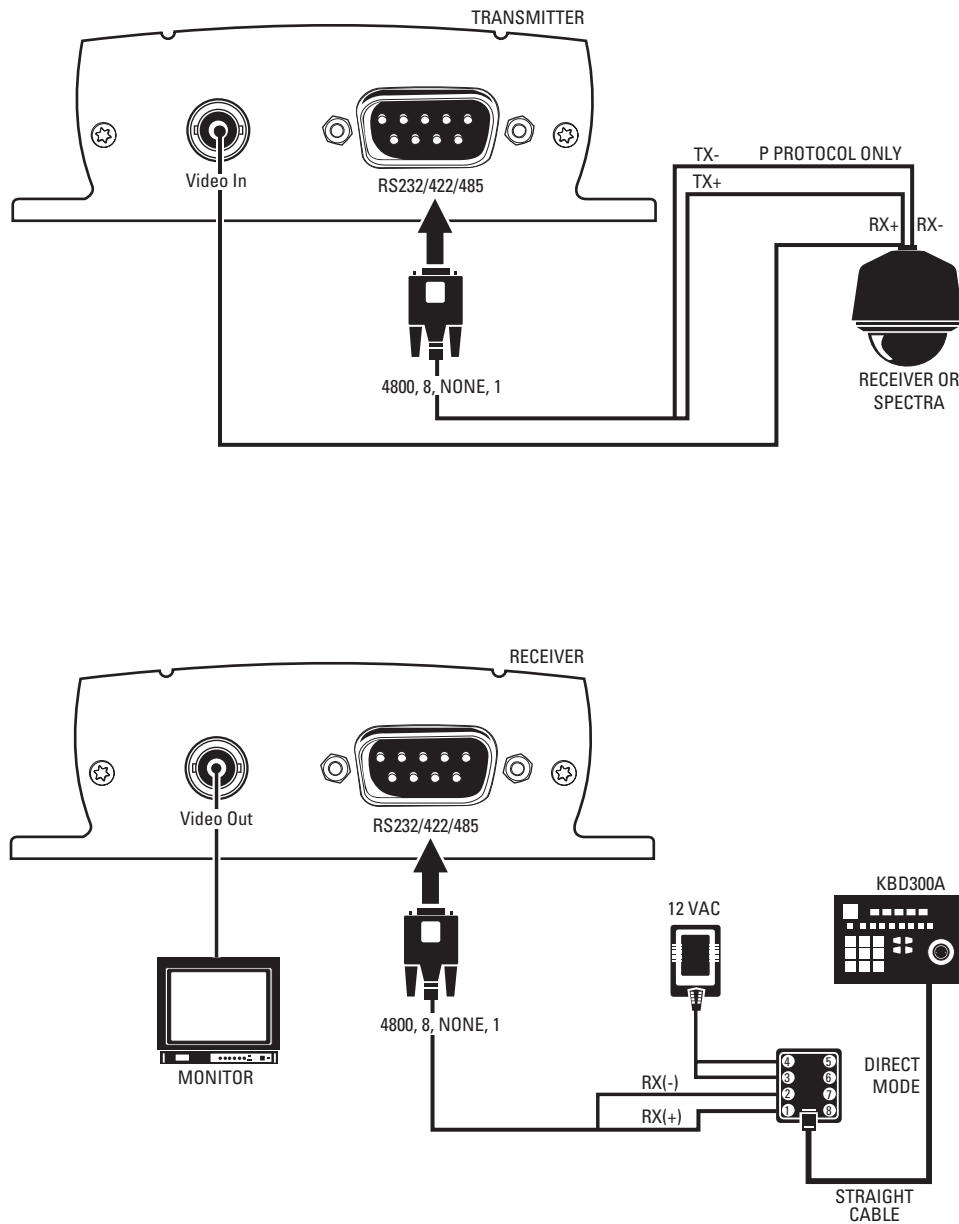

Figure 44. KBD300A (Direct Mode) Connected to a Receiver or Spectra Dome System
Refer to Figure 44 and the instructions that follow.
7. Refer to Figure 43 and Figure 44. Splice the supplied DB9 cable into the Spectra/Esprit or receiver cable. Use P protocol only.